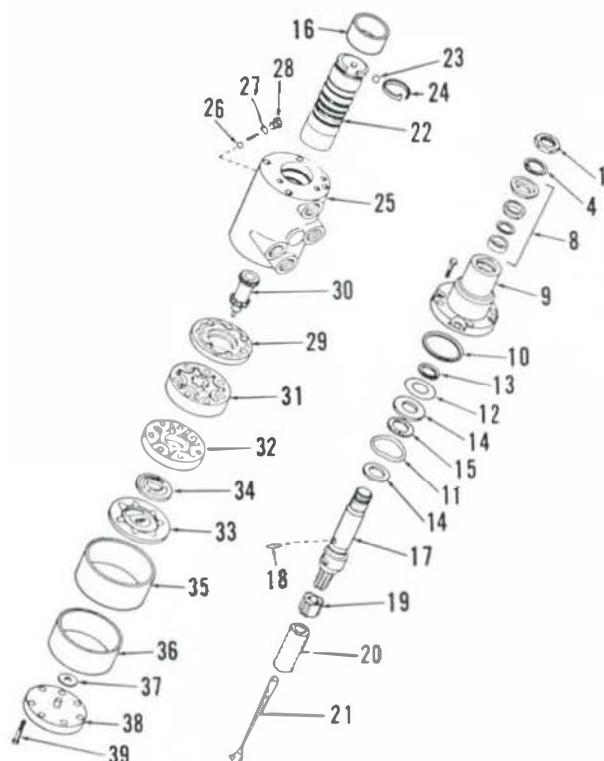

Fig. 27—Exploded view of steering control valve assembly (hydrostatic hand pump) used on standard MF245 models.
23. OVERHAUL. All MF245 models except Orchard are equipped with the hydrostatic hand pump shown exploded in Fig. 27. The valve spool (22) and body (25) are available only as a matched set.
Before reassembling, wash all parts in clean solvent and air dry. All parts, unless otherwise indicated, are installed dry. Install recirculating ball (26—Fig. 27) and plug (28) with new "O" ring (27) in valve body and tighten plug to a torque of 14-19 N·m (10-14 ft.-lbs.). Clamp fitting (installed in valve body port) in a vise so top end of valve body is facing upward. Install thrust washer (14), thrust bearing (15), second thrust washer (14) and snap ring (13) on input shaft (17).